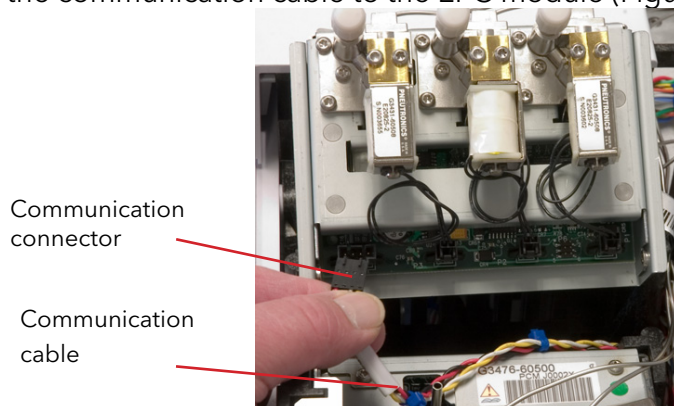

Figure 3.23. Attaching the Communication Cable to the EPC Module
c. Attach the communication cable to the EPC module (Figure 3.23).